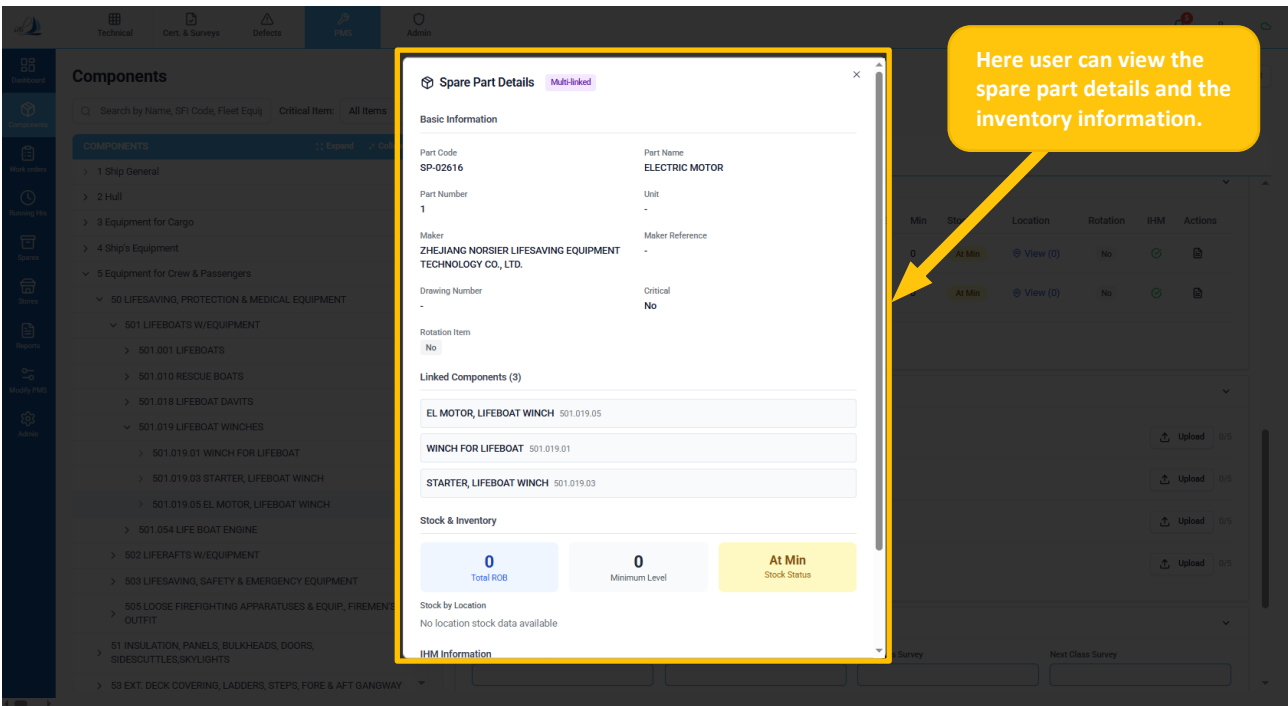

Figure 25
- The screen below appears after clicking the spare part. (Ref Figure 25)
- Here, the user can view the Spare Part Details window, which displays detailed information about the selected spare, including basic details, linked components, stock levels, and IHM information. (Ref Figure 25)